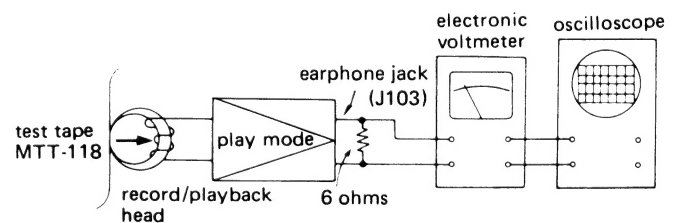

Figure 4-3
- 1) Make a connection of instruments as shown in Figure 4-3.